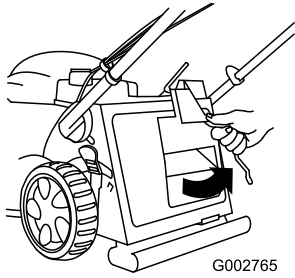

Figure 25
1. Rotate the latch rod to the right and remove the mulch plug (Figure 25).